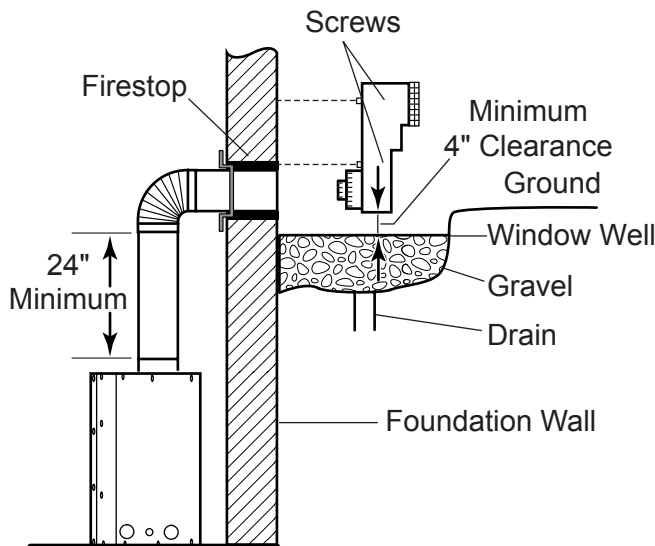

Figure 29 - Below Grade Installation
2. Remove soil to a depth of approximately 16" below base of snorkel. Install drain pipe. Install window well (not supplied). Refill hole with 12" of coarse gravel leaving a clearance of approximately 4" below snorkel. *See Figure 29.*
7. Level the soil so as to maintain a 4" clearance below snorkel. *See Figure 29.*